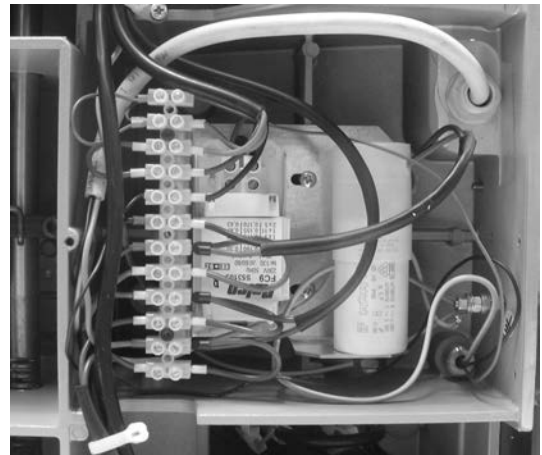

Fig. 41
- 3) Disconnect the 4 motor wires (1, 2, 3, 4) from their connections (Fig. 41).
- 20) Connect the 4 motor wires (1, 2, 3, 4) (Fig. 41).